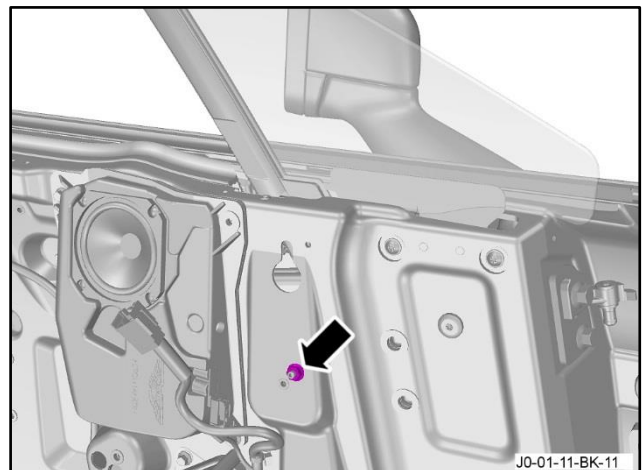

Figure 26
11. Loosely install the nut that attaches the division bar and quarter glass assembly to the door (refer to Figure 26).